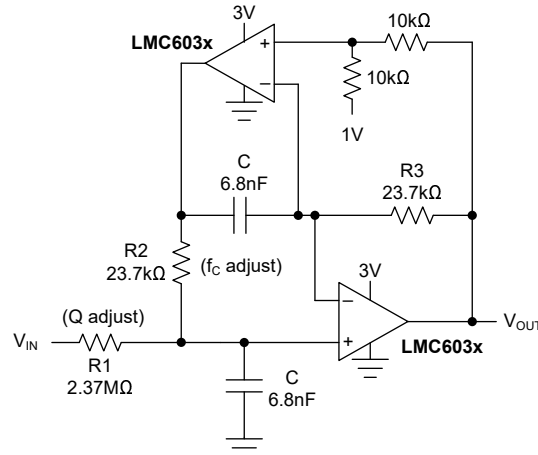

Figure 7-9. Active 2-Pole Bandpass Filter (1kHz)
The dual-amplifier bandpass (DABP) filter features the ability to independently adjust f_c and Q . In most other bandpass topologies, the f_c and Q adjustments interact with each other. The DABP filter also offers both low sensitivity to component values and a high Q . The following application of Figure 7-9, provides a 1kHz center frequency and a Q of 100.
1. First choose a center frequency (f_c). **Figure 7-9** represents component values that were obtained from the following computation for a center frequency of 1kHz.